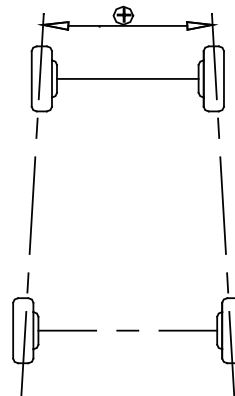

Figure 1.8
- Track width (Tread) difference is defined as the angle between the joint line of the ground-contact point of left wheels and that of the right wheels. It is positive when distance between the centre of the rear wheels is large than that of front wheels; and negative otherwise. If the wheelbases are available from the vehicle specifications, then the tread difference can be also expressed by angle. See Figure 1.8.